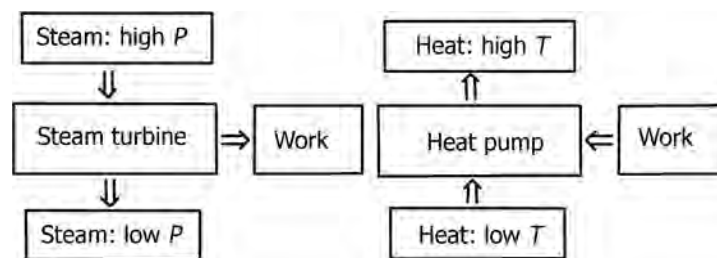

FIGURE 12.3 Comparison of a steam turbine and a heat pump.
- Figure 12.3 illustrates the difference between a steam turbine and a heat pump.